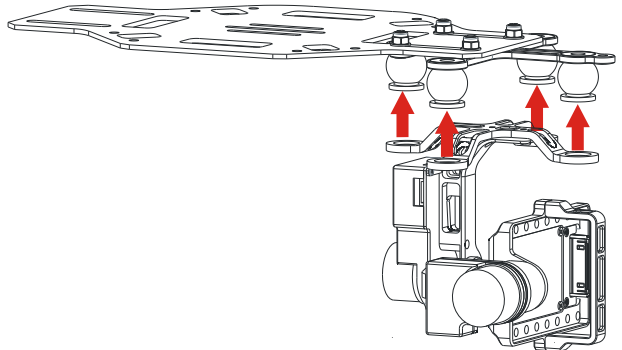

Fig.6
5. Attach the Vibration Absorber to the Bottom Board of Damper Unit shown in Fig.6.